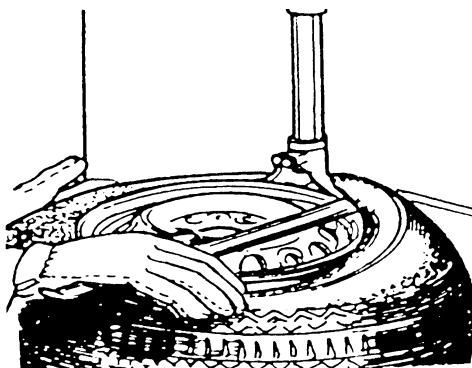

Fig.6
- 6) Insert the lever between the tire bead and the front section of the mounting head. (Fig.6)